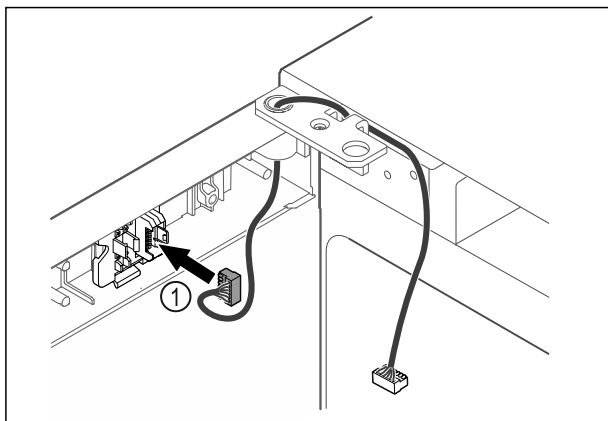

Fig. 54
- Put the plug Fig. 54 (1) in the plug holder.